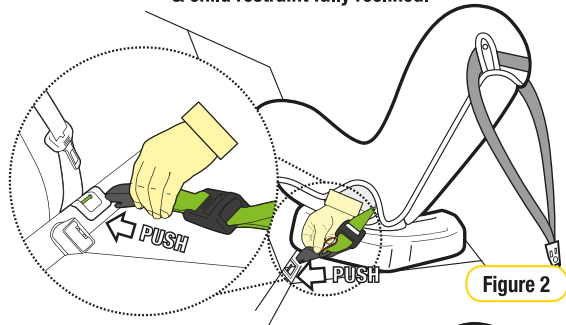

Figure 2
**Step 2:** Insert the flexible LAC into the ISOFIX lower anchorage point. You may need to 'PUSH' into the seat bite where the ISOFIX symbols indicate. Give a 'PULL' to check for positive engagement (refer Figure 2).